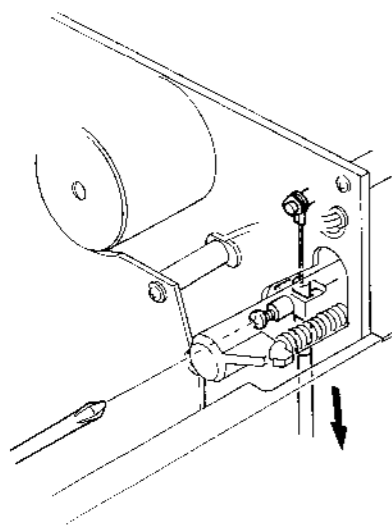

Fig. 4.24
- (2) With pushing the Eject Arm by hand, loosen the screw and then pull the Eject Wire in the direction of the arrow until it stops as shown in Fig. 4.24.
- (3) Tighten the screw, then apply a quantity of lock tight paint.